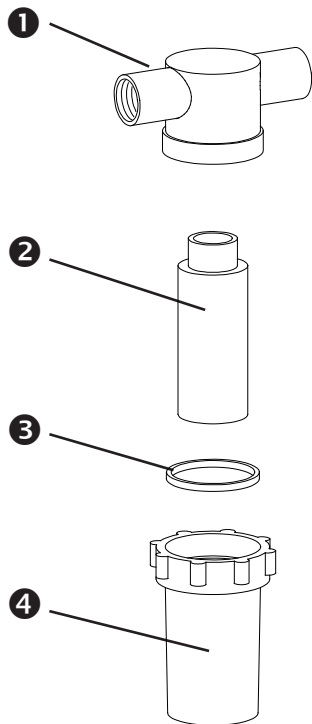

Fig. 7. Water filter
- ❶ Filter body
- ❷ Filter cartridge
- ❸ Sealing ring
- ❹ Plexiglass cup
- Unscrew Plexiglass cup (❹, fig. 7) from filter body (❶, fig. 7) by turning anti-clockwise.
- Extract filter cartridge (❷, fig. 7) and replace by new one (Art.No. 502.0891.0).